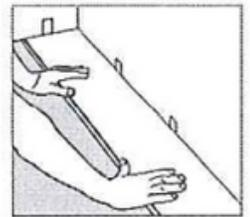

Figure 1
1. Starting from the LEFT with the tongue facing the wall, carefully place the first board in place. Use spacers along the wall allowing required expansion gap (3/8" or 10 mm). **(Figure 1)**